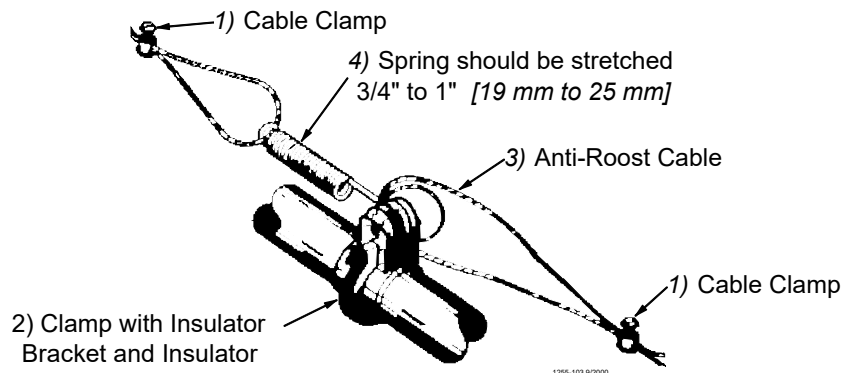

Figure 52. Anti-Roost Cable Mid-Line Connection
9. Attach a spring in the center groove at the second anti-roost bracket and cut the cable at this point. See **Figure 52.**
10. Thread the ends of the cable through the end of the spring. Pull the cable tight so that there is 3/4" to 1" [20 to 25 mm] of stretch in the spring. Clamp the cable to form a loop and cut off any excess. See **Figure 52.**
11. Attach the cable to the insulator. For best results, make a double loop around the anti-roost insulator in the center groove of the insulator and fasten with a 1/16" cable clamp as shown in **Figure 52.**